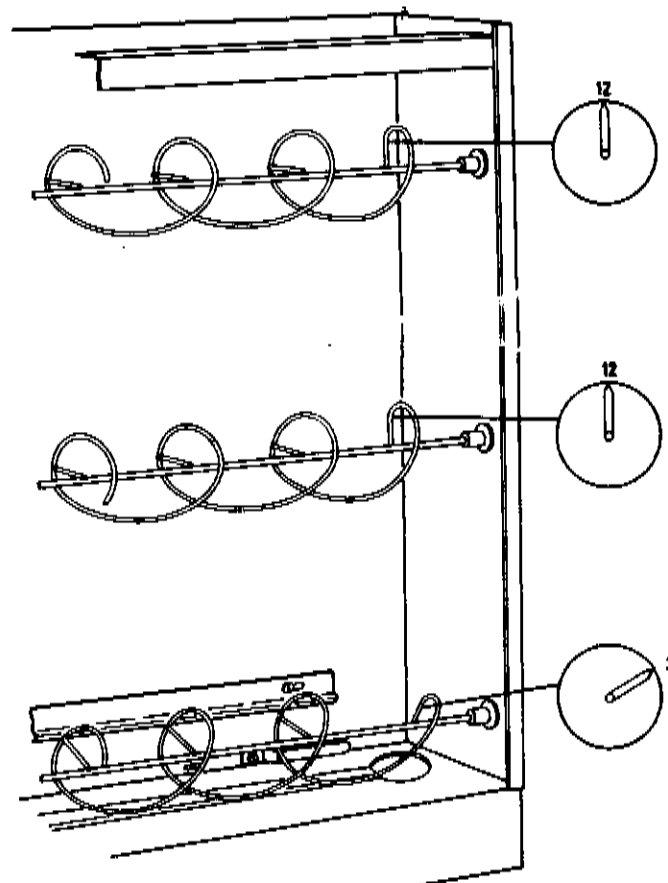

Figure 13 (Spiral adjustment)
The spirals are so designed that a stack of standard vending cups will nestle between the turns. It is important that the spirals are properly oriented with each other so that the stacks of cups will advance in a vertical position. Figure 13 of this section illustrates the relationship between the three spirals. When the spirals are properly adjusted the return wire at the end of the spirals will point as shown. When the upper two (which should be adjusted to the same position) point to 12 o'clock the lower spiral should be advanced to a 2 o'clock position. This is done because the lower end of a cup stack is smaller in diameter than at the top rims, where the spiral touches it. The spirals are properly set before the 1400 Freeze Dry leaves the factory and should not have to be adjusted before putting the machine
4. Remove the nut (B) from the right hand end of the magazine support angle.
7. Remove the nyliners (C) from the holes in which the spiral shafts had been and relocate them in the forward set of holes.
8. Rotate the bearing plate (D) so that the screw holes for mounting are lined up to the left of the shaft, as you view it from that end. This must be done for both the top and center spirals.
11. Turn the bottom spiral until the wire on the right hand end points to 2 o'clock as previously described. (Figure 13).
12. Position the wire on the right hand end of the center spiral at 12 o'clock. (Figure 13)
15. Follow a similar belt tightening procedure for the top spiral as was performed on the center spiral. Be sure that the center and upper spirals both point in the direction of 12 o'clock while the bottom spiral points to 2 o'clock (refer to Figure 13).